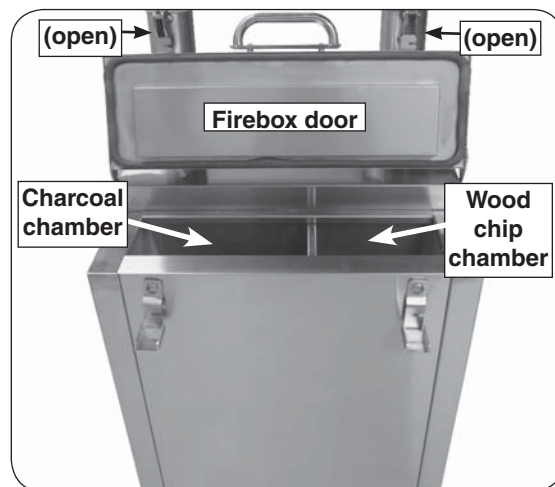

Fig. 9-1
1. Unlatch and open the firebox door located on the top rear of the smoker (see Fig. 9-1).
2. Fully open the rain caps on the two chimneys, located at the top of the smoker (reference Fig. 9-1).